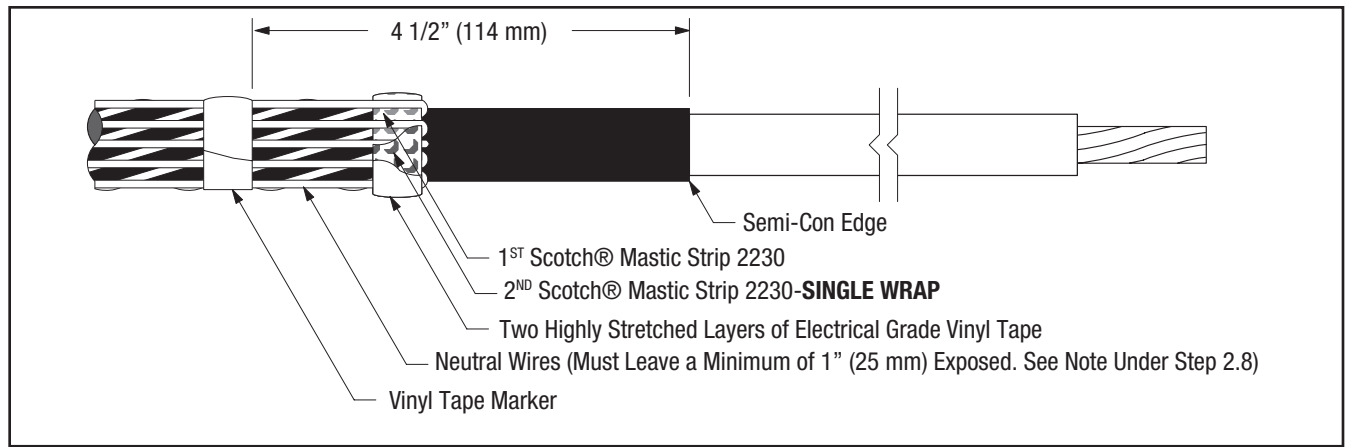

Figure 8
- 6.7 Bend neutral wires back over applied sealing mastic and secure to cable **4 1/2" (114 mm) from cable semi-con edge using vinyl tape (see NOTE and Figure 8).**
- 6.8 Select second Scotch® Mastic Strip 2230 from kit and remove white release liners. Apply a second **SINGLE WRAP** of mastic over the neutral wires and previously applied mastic (Figure 8). Cut off excess.
- 6.9 Compress neutral wires into mastic by over-wrapping seal strips with two highly stretched layers of electrical grade vinyl tape (Figure 8). **Be sure to cover all exposed mastic.**